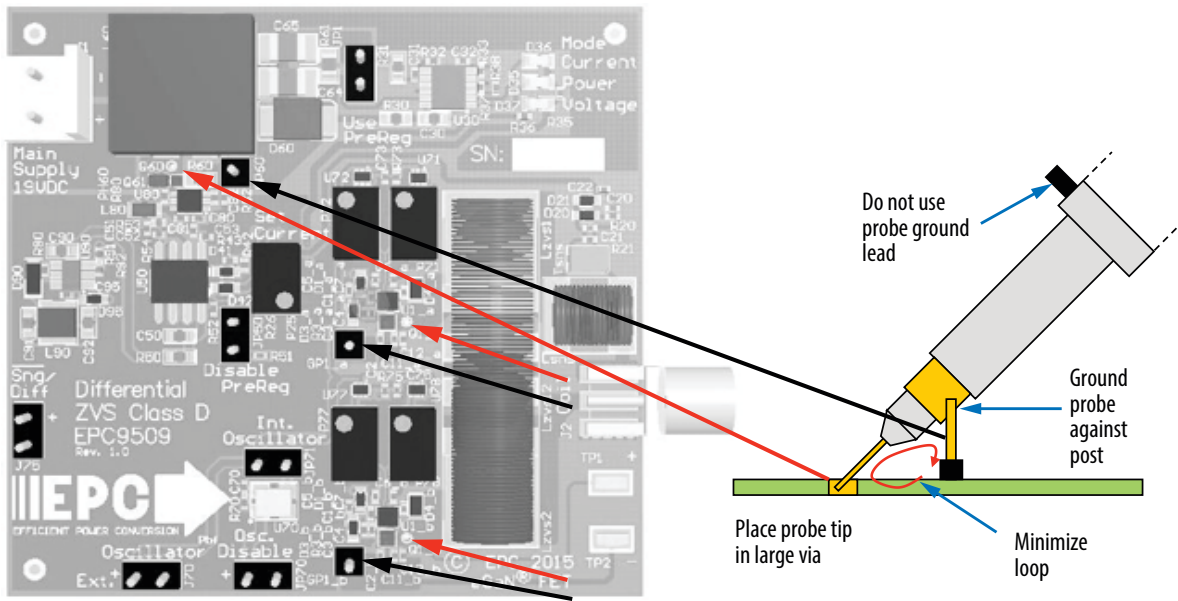

Figure 9 : Proper measurement of the switch nodes using the hole and ground post.
3. Connect a LOW capacitance oscilloscope probe to the probe-hole of the half-bridge to be set and lean against the ground post as shown in Figure 9.